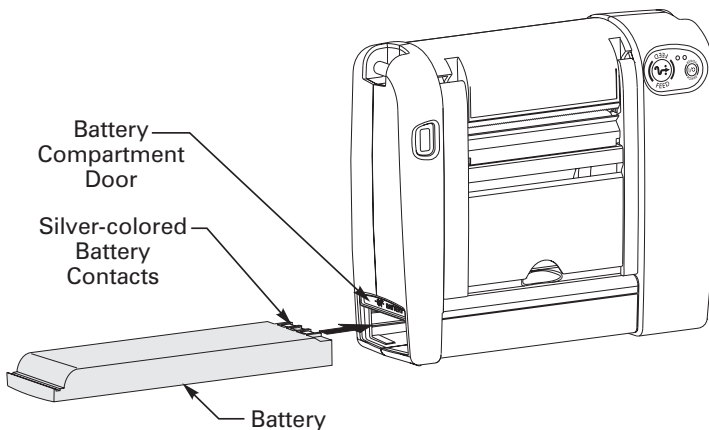

Figure 2
2. Insert the battery into the printer as shown in Figure 2, with the silver-colored battery contacts facing up.